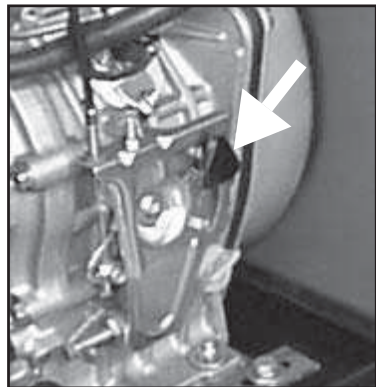

Fig.7
2) Yanmar engine models: Position the accelerator handle on the engine (see fig. 7) back upwards. Wait until the engine is completely off. Turn the key to the "OFF" position.